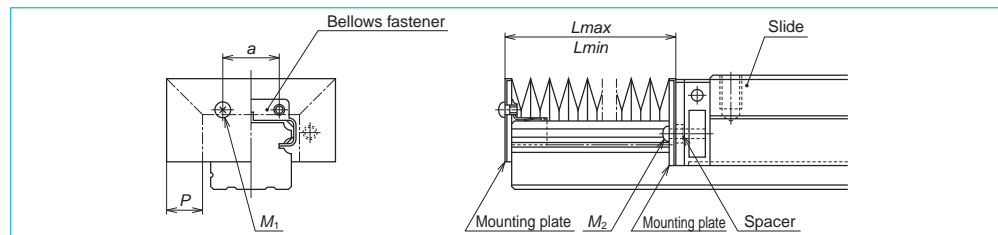
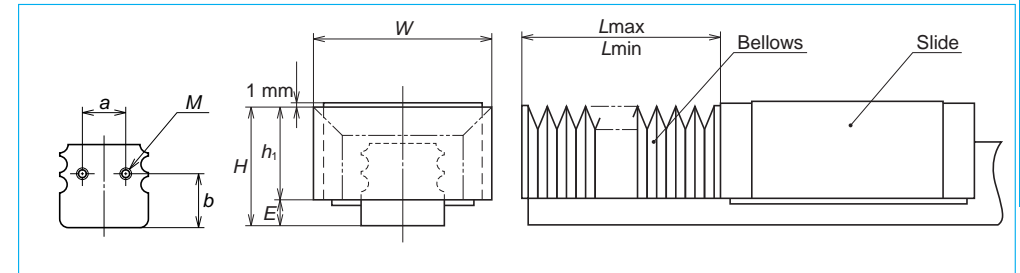
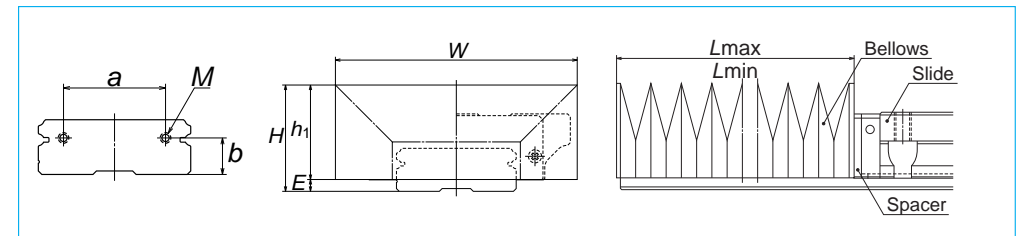

Fig. 6.7
Fig. 6.8
Fig. 6.9
- NSK has bellows exclusively for LH (SH), LS (SS), LA and LW Series. They have a middle bellows and a bellows at both ends. For LH Series, there are low and high type bellows which are in compliance with their slide types.
① Installation of bellows SH, SS, LH and LS Series
* Installation in the ball slide (Fig. 6.7)
- Remove two machine screws (M_2) which secure the end seals to the end of the slide (Fig. 6.7). For LS15, hold the end cap by hand. Otherwise, the end cap is detached from the ball slide, and the balls inside may spill out.
- To install bellows for SH, SS, LH and LS Series, lightly knock a fastener exclusively for bellows to the end of the rail (Fig. 6.7). Then secure the mounting plate at the end of the bellows through the tap hole of the fastener.
② LA and LW Series
* Installation in the ball slide (Fig. 6.8 and Fig. 6.9)